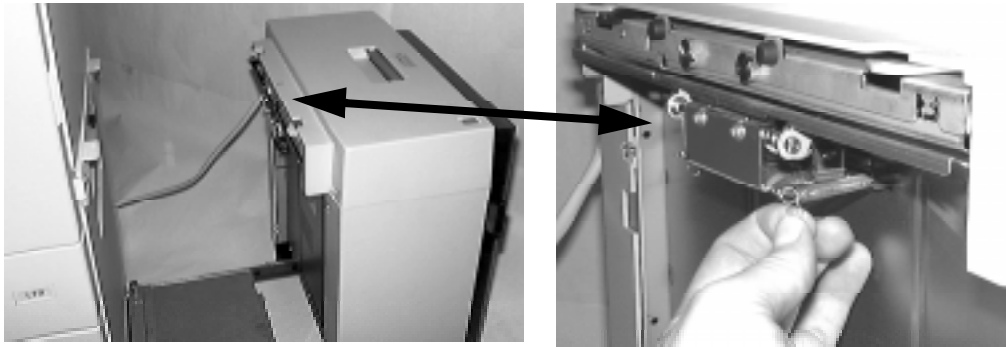

Figure 4-57 HCI Rear and Lower Roller Assembly Springs
3. Locate the back of the HCI and carefully remove the retaining springs providing tension to the lower roller assembly, as shown in Figure 4-57. Notice how these springs are attached to the lower roller assembly.